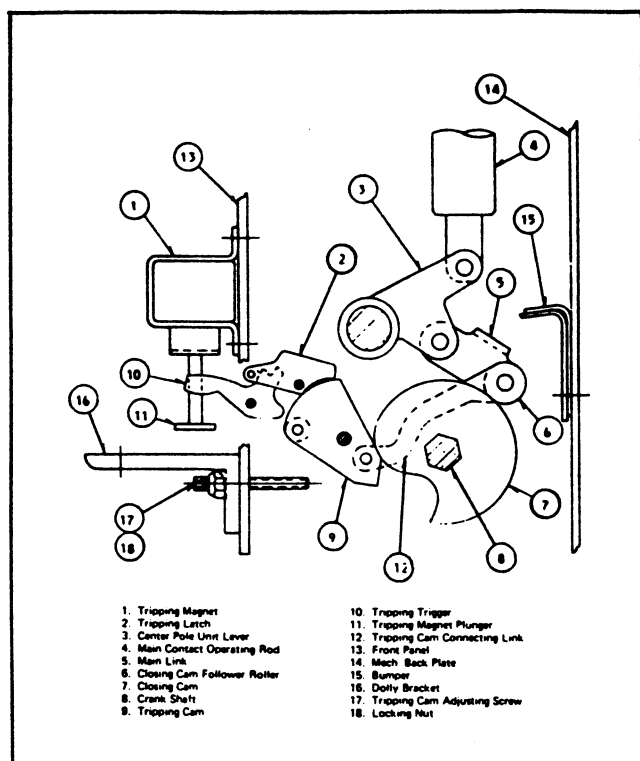

Fig. 8a Breaker Open and Spring not Charged
The trip linkage adjustment has been revised for this supplement. The last two paragraphs of Page 47 and the first three paragraphs of Page 48 and Figure 8 of I.B. 32-253-2 are therefore superseded and the following procedure and revised Figure 8 should be used. (Breakers manufactured and adjusted in accordance with the superseded procedures will operate satisfactorily. However if circumstances occur which require that a readjustment must be made the revised procedure should be followed.) With the breaker withdrawn from its switchgear housing remove the transparent plastic cover ("Lift plunger to trip") from in front of the trip coil. Charge the closing spring. With the breaker open and closing spring charged proceed as follows: (Ref. Figs. 8A and 8B).
3. Raise the tripping trigger approximately one inch. The trigger will be held up in this position (similar to condition shown in Fig. 8A).